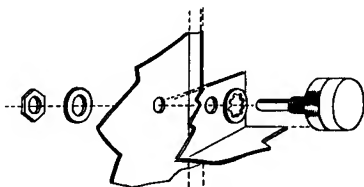

Fig. 10
- ( ) Mount the sensitivity control in location M. See Figure 10 for details of hardware assembly. Keep the lugs exactly as indicated in Pictorial 3. On some controls, a small locating lug protrudes from the front of the control housing. If this lug interferes with the mounting, cut it off or bend it over.
- ( ) Mount the phone jack (see Figure 10 and Pictorial 3) in location L. Keep the lugs oriented exactly as indicated.